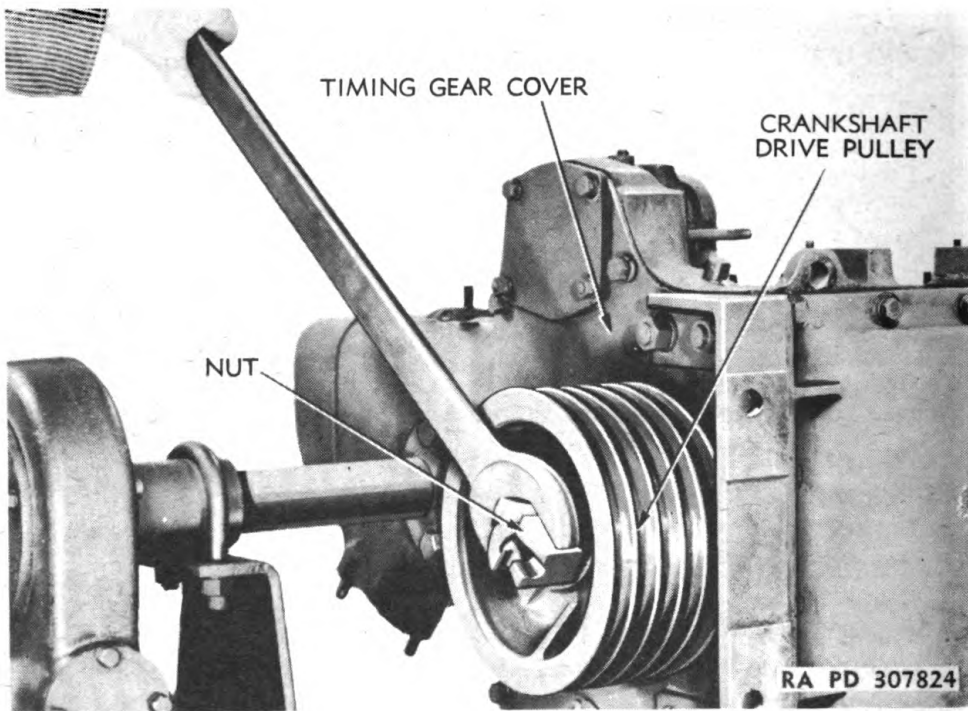

Figure 20 — Removing Drive Pulley
a. **Remove Timing Gear Cover** (fig. 20). Remove the three nuts and lock washers and large screw from engine support and the four cap screws and lock washers at rear of cover and remove engine support. Remove the five remaining cap screws from cover, and remove cover and oil seal assembly as a unit.